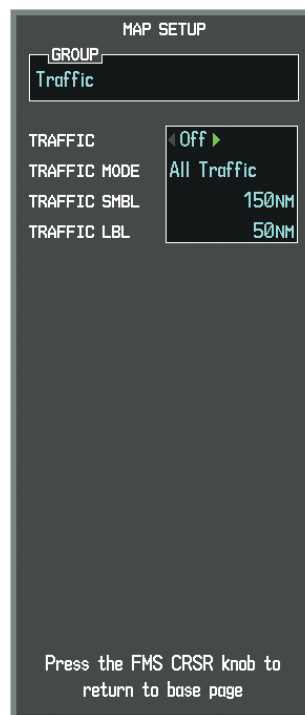

Figure 6-96 Navigation Map Page Setup Menu, Traffic Group
- 5) Turn the large **FMS** Knob or press the **ENT** Key to scroll through the selections (Figure 6-96).